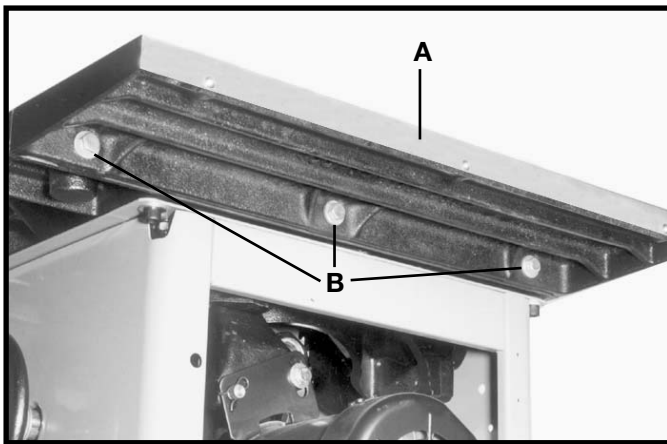
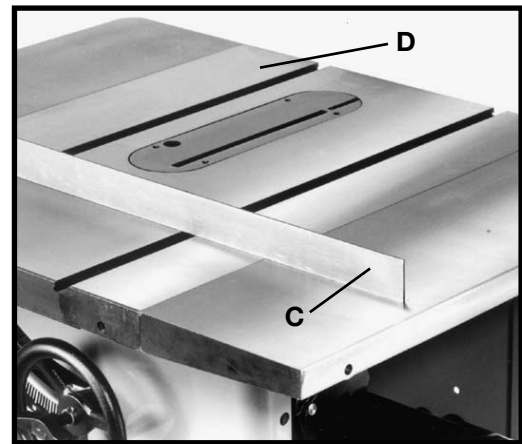

Fig. 9
Fig. 10
Assemble extension wing (A) Fig. 9, to the right hand side of the saw table using three 1-1/4 inch-long hex head screws (B) and flat washers supplied. Use a straight edge (C) Fig. 10, to make certain the extension wing is level at the front and rear of the saw table before tightening three screws (B) Fig. 9. NOTE: Make certain the left extension wing (D) is also level with saw table in the same manner.